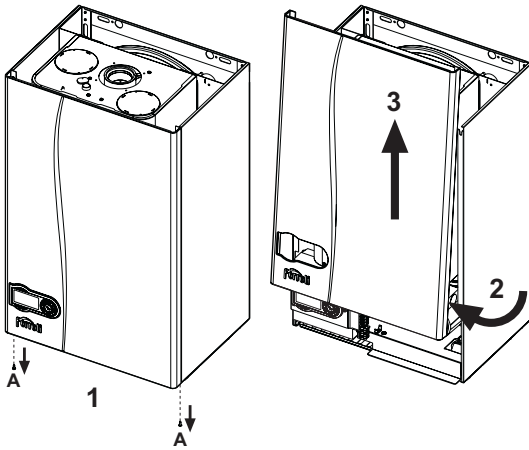

fig. 28 - Opening the casing
1. Undo the screws A (see fig. 28).
2. Turn the casing (see fig. 28).